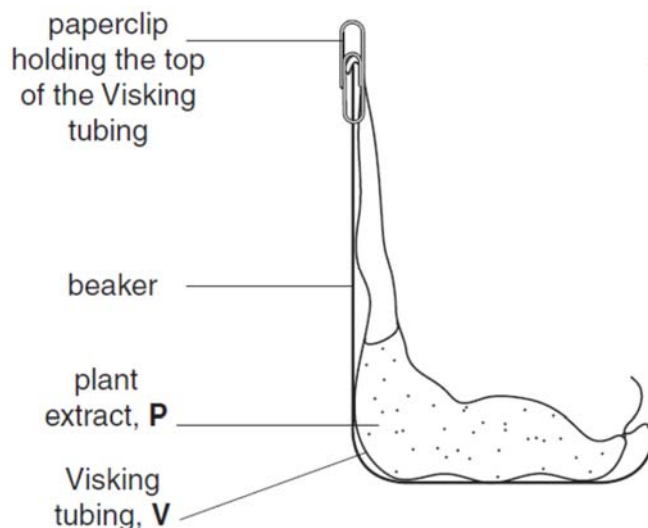

Fig. 1.3
- set up a Visking tubing containing **P** as shown in Fig. 1.3
(iii) Draw **on Fig. 1.3** the level of the water
17. Put the Visking tubing into an empty beaker as shown in Fig. 1.3.